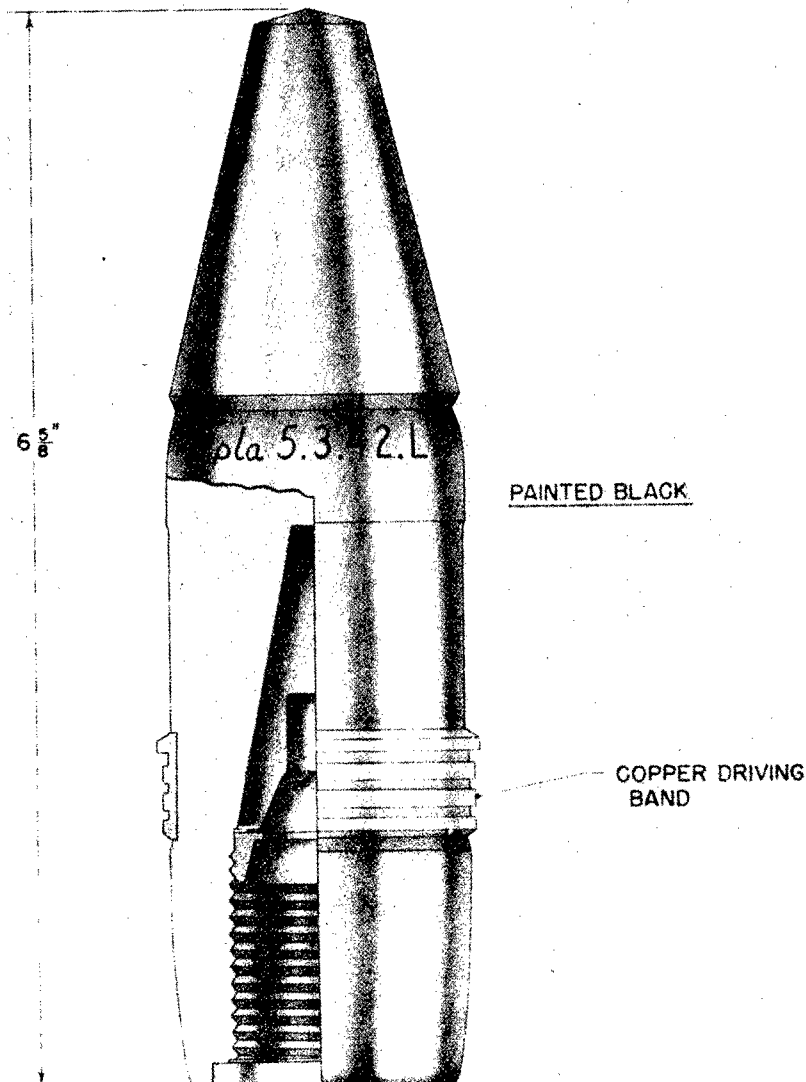

Figure 365—A. P. C. Projectile Type 36 (Czech. Design), 47-mm, 4.7-cm Pzgr. Patr. 36 (f)
4.7-cm Pzgr. Patr. 36 (t) (Panzergranate Patronen 36 [t]). (See fig. 365.)